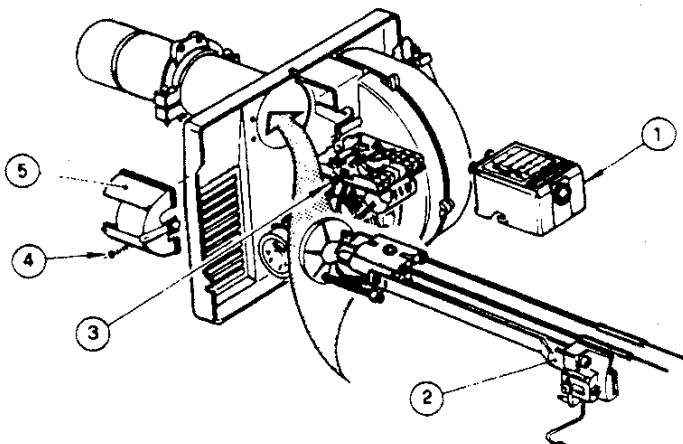

Figure 5: Installation/Removal of Riello Drawer Assembly
- n. Swing igniter closed, rotate tabs and tighten two (2) igniter screws.
a. Installation/Removal of Drawer Assembly, refer to Figure 5.
- Loosen SCREW (3), and then unplug PRIMARY CONTROL (1) by carefully pulling it back and then up.
- Remove the AIR TUBE COVER PLATE (5) by loosening the retaining SCREW (4) (Two SCREWS-Model F5).
- Loosen SCREW (2), and then slide the complete drawer assembly out of the combustion head as shown.